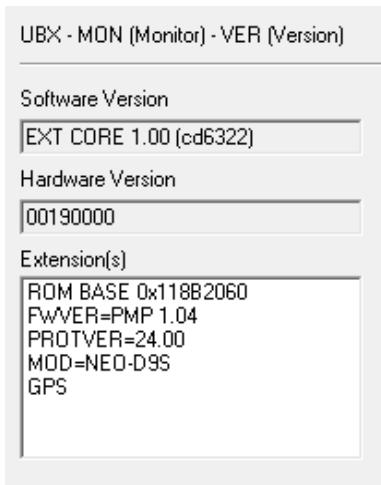

Figure 6: UBX-MON-VER message
- Poll UBX-MON-VER message and check the content as shown in Figure 6.